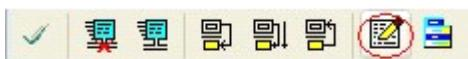
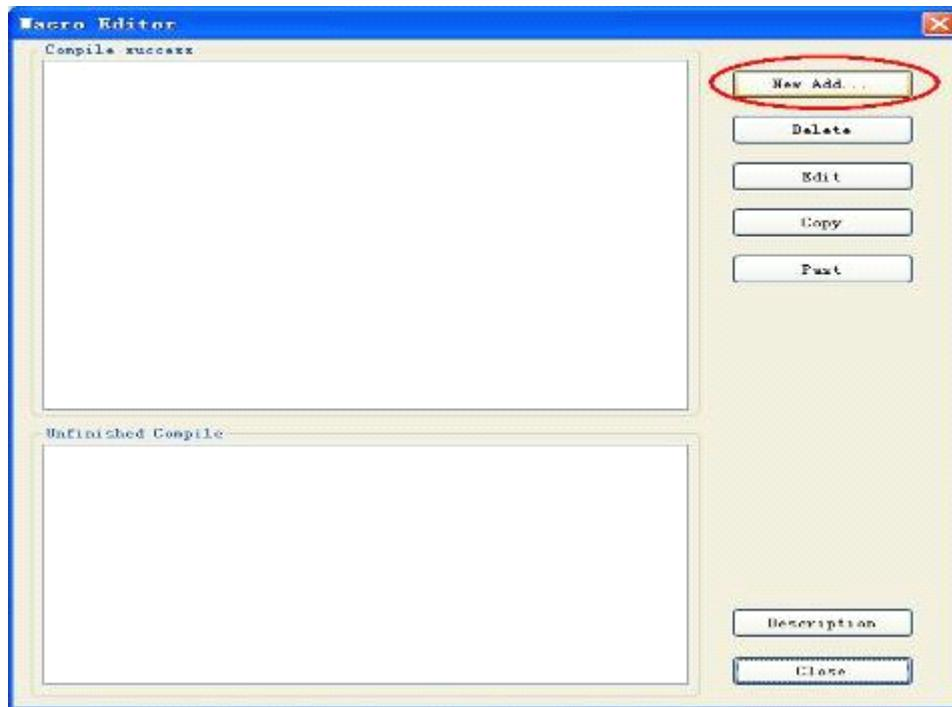

Figure 5-2 (Macro Button)
Figure 5-3 (Macro Editor)
Method 1: select "Setting (S) -> Macro" from the menu as shown in Figure 5-1 (macro menu), and pop up interface as shown in Figure 5-3 (macro editor).
Method 2: click shortcut button "Macro" as shown in Figure 5-2 (Macro button), and pop up interface as shown in Figure 5-3 (Macro Editor).
The functional controls are arranged in macro editor window as shown in Figure 5-3 (Macro Editor).